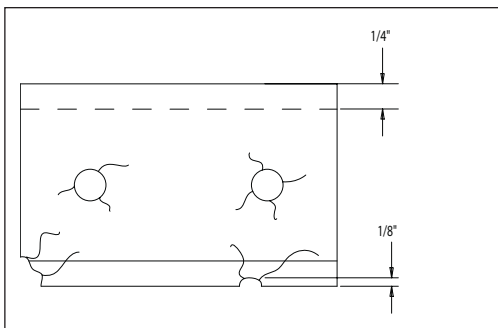

Figure 5.1 - Causes for Replacement
1. There are cracks, broken corners or nicks greater than 1/8" (Figure 5.1).